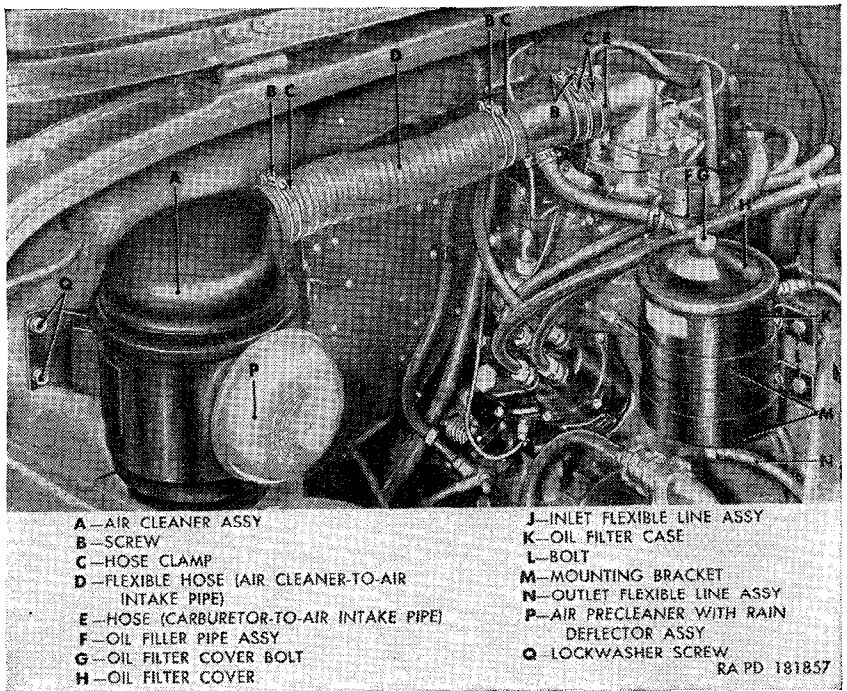

Figure 66. Air cleaner and oil filter assemblies—installed.
- (b) Unscrew the nut on the vent line (A) end from the vent line elbow (B). Unscrew the nut on the fuel line (E) end from the fuel line elbow (C).
- (c) Unscrew the two nuts (G) from the studs. Raise the carburetor assembly (W) to clear the studs and remove the throttle valve body-to-manifold insulator (F). Discard insulator.
- (a) Install a new throttle valve body-to-manifold insulator (F) over the studs in the cylinder head.
- (b) Install the carburetor assembly (W) over the studs and into the air intake pipe hose and tighten the screw (B, fig. 66) in the hose clamp (C, fig. 66). Screw the two $\frac{3}{8}$ -inch nuts (G) on the studs and tighten evenly.
(fig. 66)